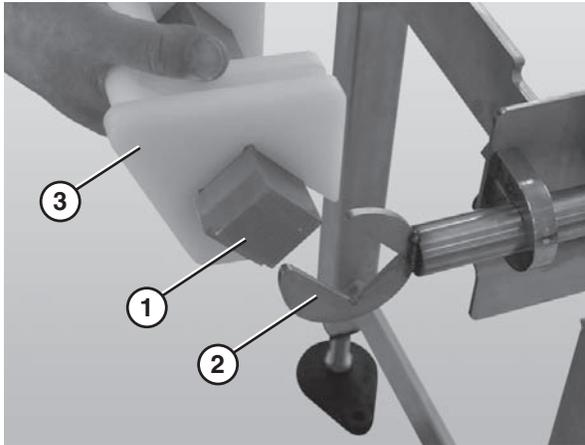

Figure 70
- After all tracking pucks (Figure 70, item 3) are installed, slide the nose bar drive or transfer post (Figure 70, item 1) into of the nose bar drive weldment or idler hands (Figure 70, item 2).